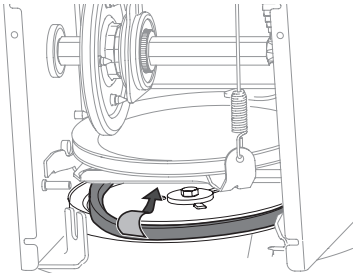

Figure 89
- Remove belt from around auger pulley, and slip it between support bracket and auger pulley (Figure 89).